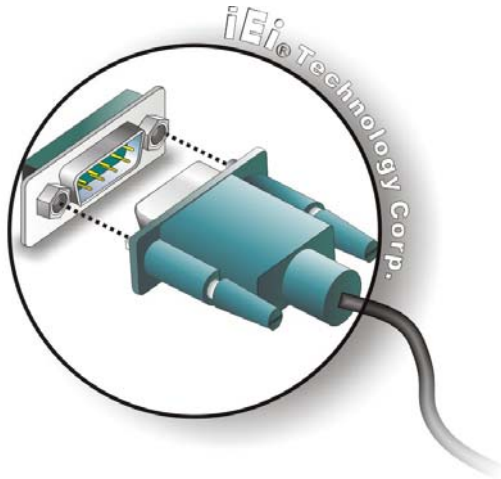

Figure 4-4: Serial Device Connector
Step 1: Insert the serial connector. Insert the DB-9 connector of a serial device into the DB-9 connector on the external peripheral interface. See Figure 4-4.